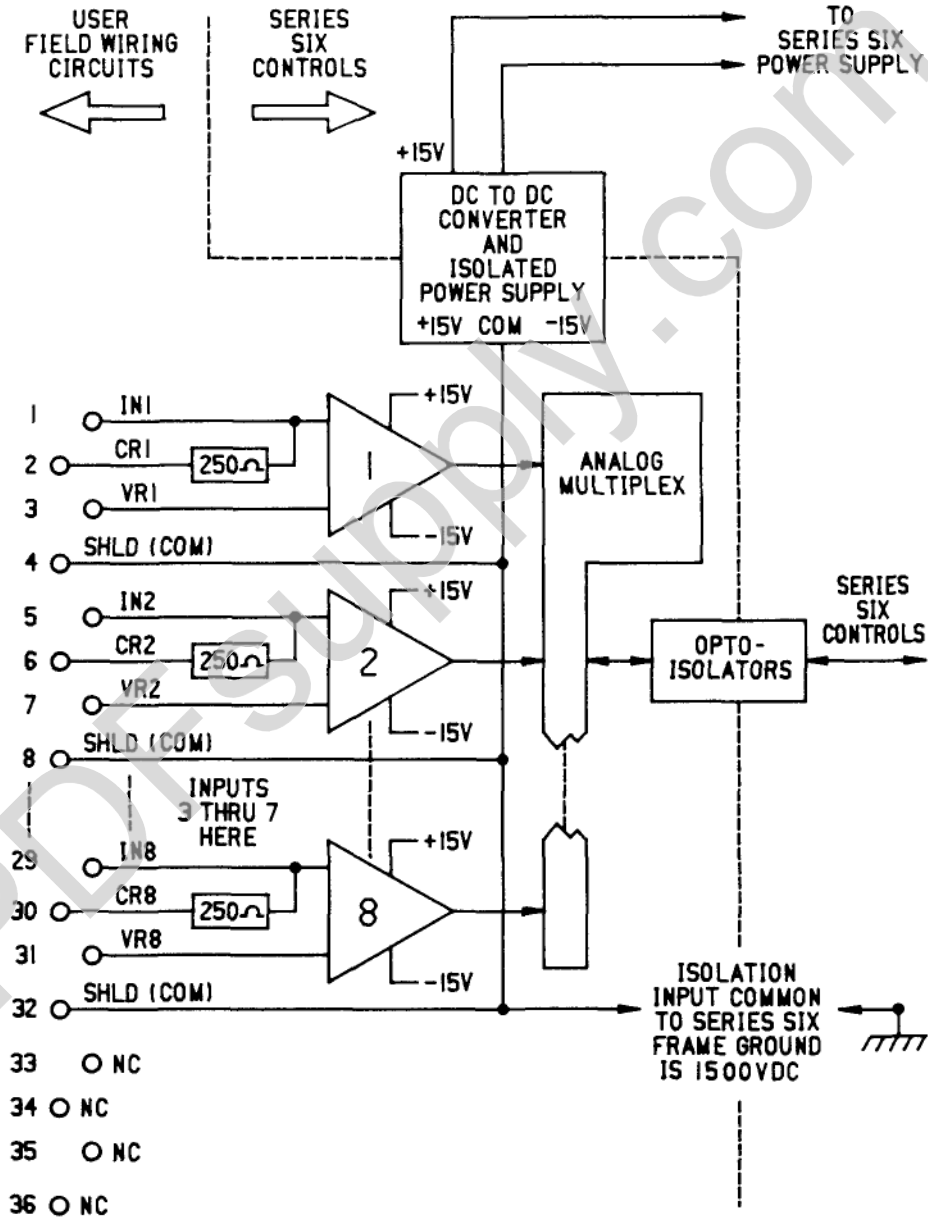
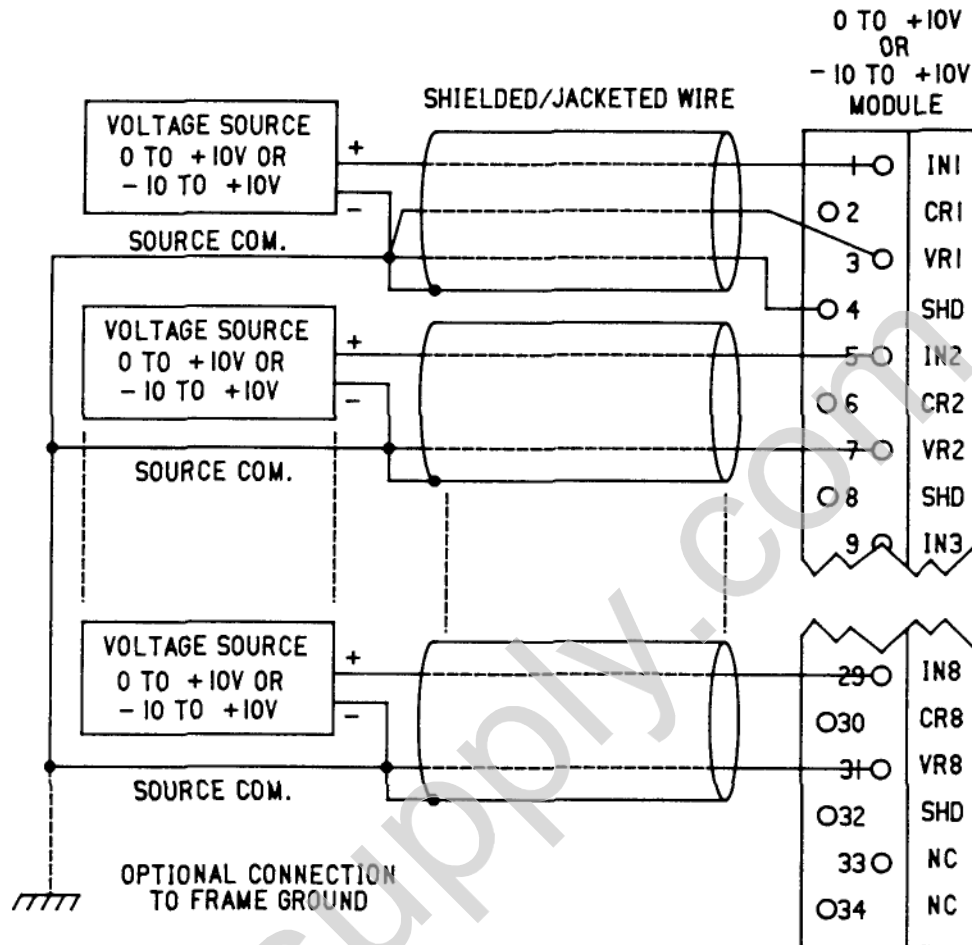
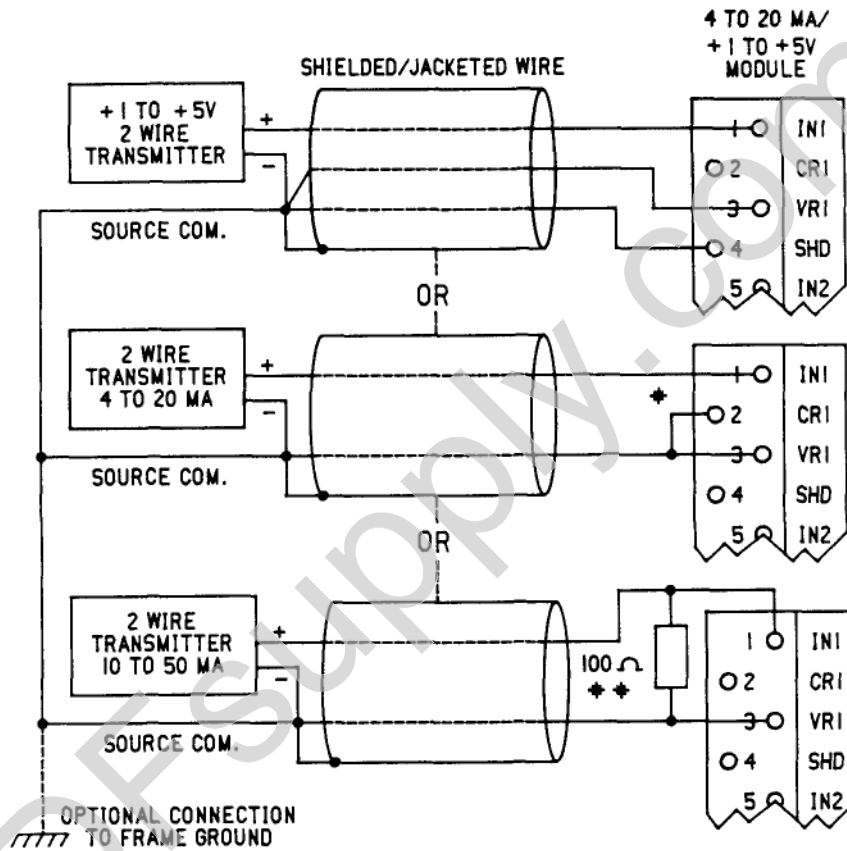
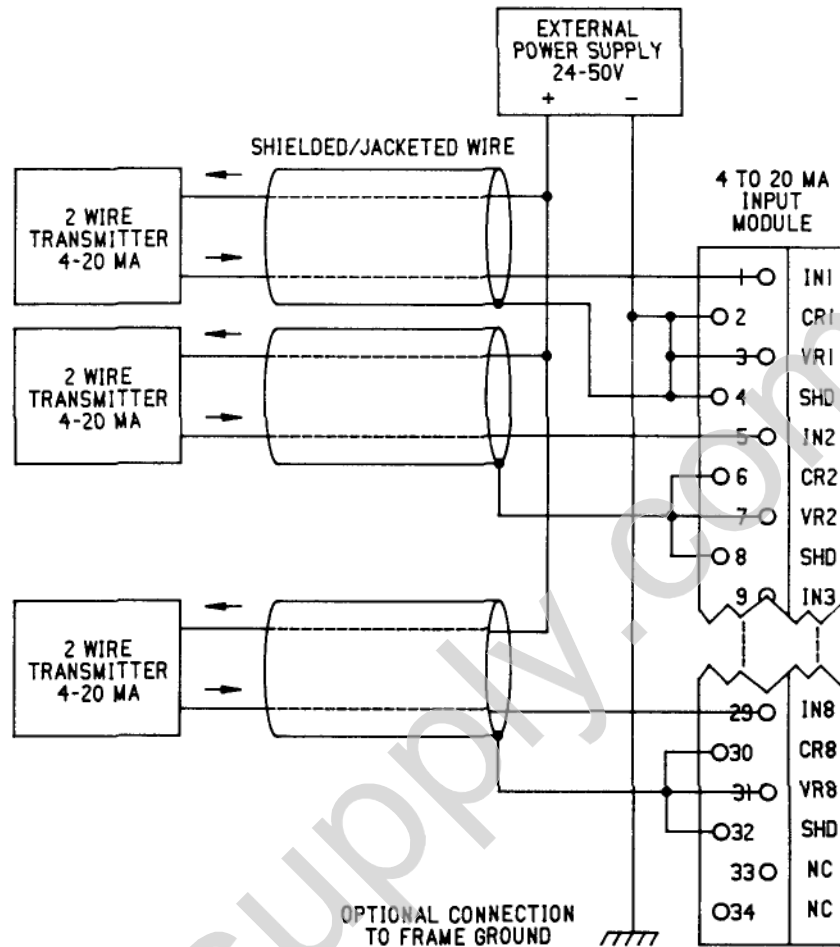

Figure 2. Symbolic Analog Input Module Circuit
Figure 3. Typical User Input Connections (0 to +10 V or -10 to +10 V)
Figure 4. Typical User Input Connections (4 to 20 mA)
Figure 5. Typical Wiring for Type 2 Transmitters Requiring an External Power Supply (4 to 20 mA)
The Analog Input modules can be driven and wired to in many ways. A symbolic Analog Input module circuit is shown in Figure 2. For typical user input connections when using a 0 to 10V or -10 to +10V analog signal transmitter refer to Figure 3.
When using a +1 to +5V, 4 to 20 ma, or 10 to 50 ma analog signal transmitter refer to Figure 4 for typical user input connections. For other types of analog transmitters such as Type 2, Type 3, or Type 4, refer to Instrument Society of America Standard, ISA-S50.1, for guidance. A Type 2 transmitter is shown for reference only in Figure 5.
Reference the notes shown pertaining to Figure 3. These same notes apply to Figure 4, plus the following:
Reference Figure 5 for a typical Type 2 current transmitter wiring hookup.
This configuration represents only one of many possible wiring hookups to the 4 to 20 ma input module and is shown for reference only. Using the symbolic Analog Input module circuit Figure 2, this Figure (5), and the Instrument Society of America Standard